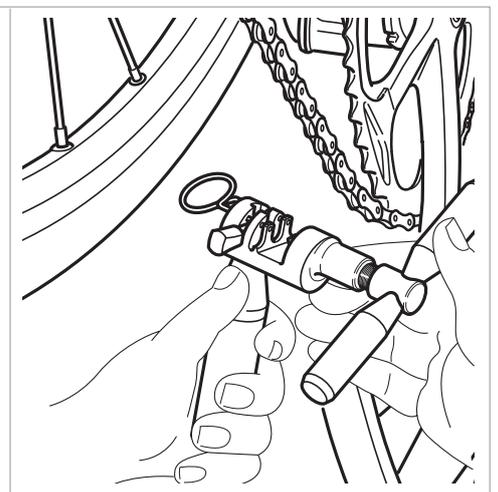

Fig.16
- Position the tool UT-CN400 as indicated in **Fig. 16** (from the outside of the chain towards the inside).